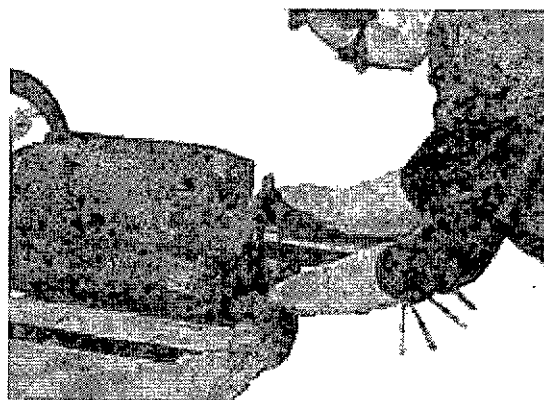

Figure 6-39
4. Heat the new bearing in an oven to a maximum temperature of 212°F (100°C). Apply a thin coat of clean lubricating oil to the press-fit area of rotor shaft. Install the bearing over the end of the shaft until it seats against the shaft shoulder as shown in Figure 6-39. The bearing should slide on the shaft and seated without excessive force. If the bearing binds on the shaft before being fully seated a piece of tubing, slightly larger than the press area, can be used to drive the bearing into place. Using light taps with a soft mallet, apply pressure to the inner race only.